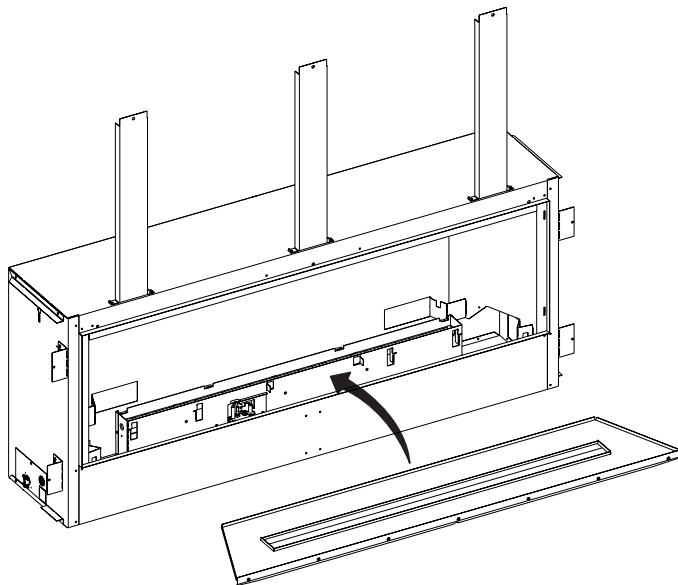

Figure 54
4. Install the burner cover assembly as shown in **Figure 54**.